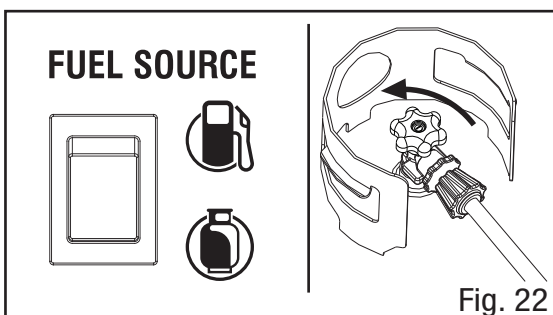

Fig. 22
3. Turn the FUEL SOURCE switch to the “LPG” position. Rotate the LPG valve to open the LPG. (Fig. 22)